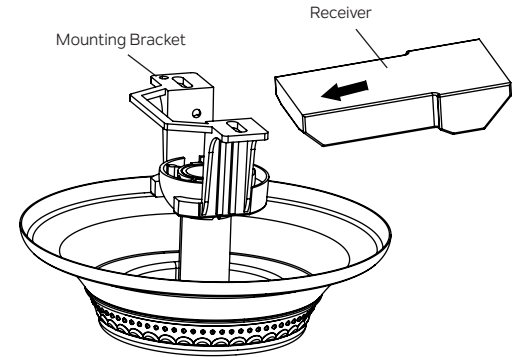

Fig. 13
Step 1. Insert the receiver into the mounting bracket, and keep flat in opposition of ceiling. (Fig.13)